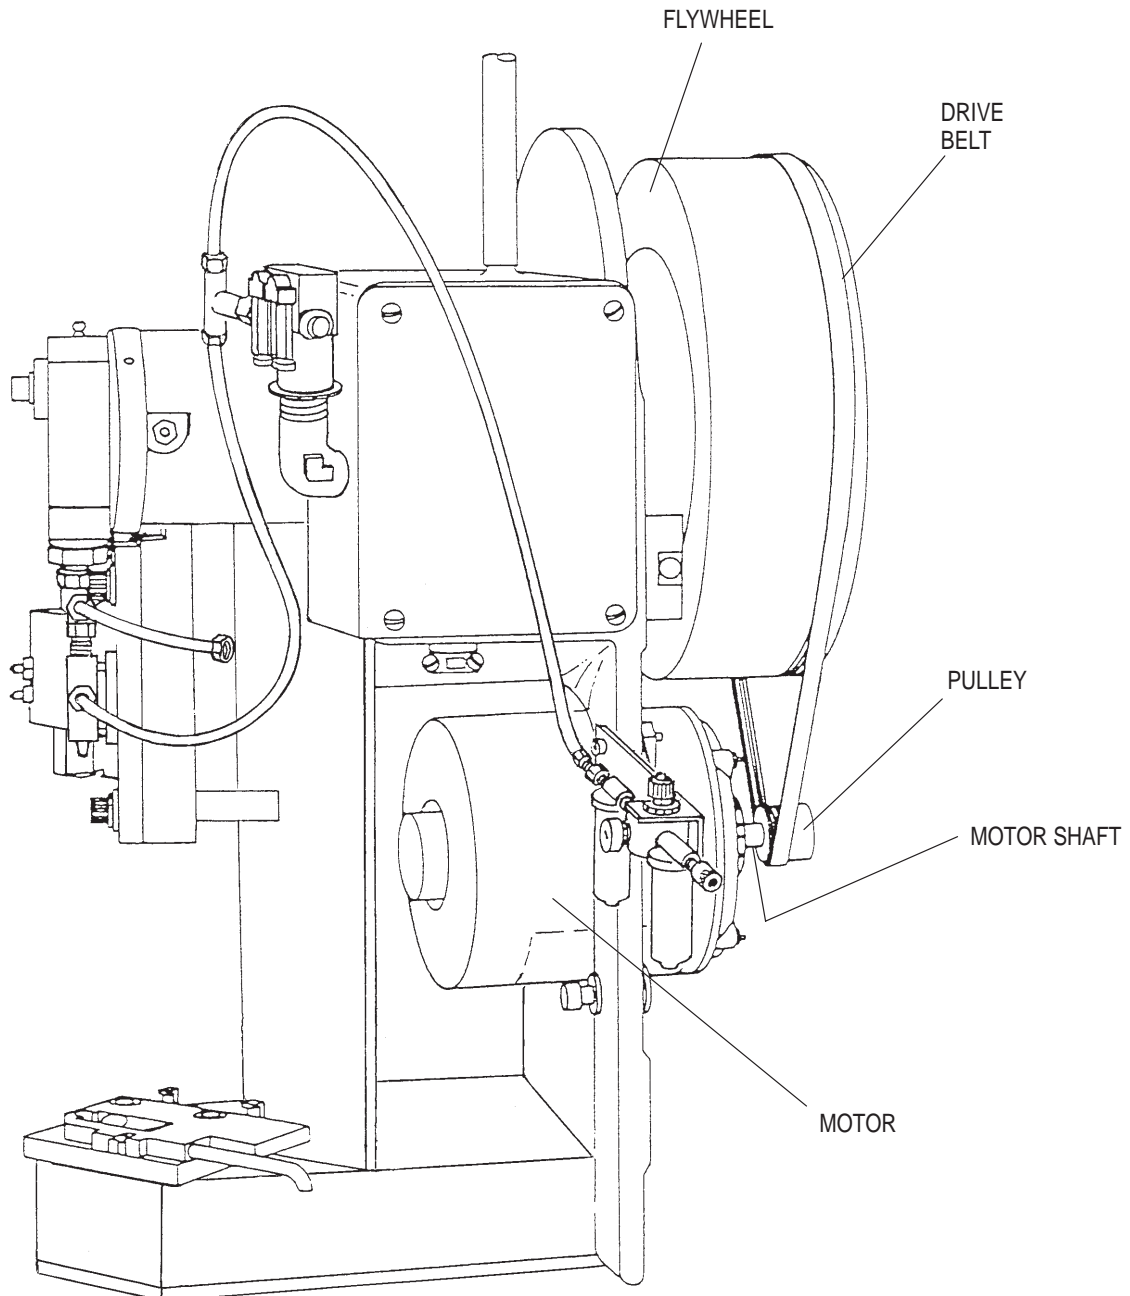

Figure 5-1. Drive Belt Tension
5.2. Drive Belt Tension and Alignment (Figure 5-1)